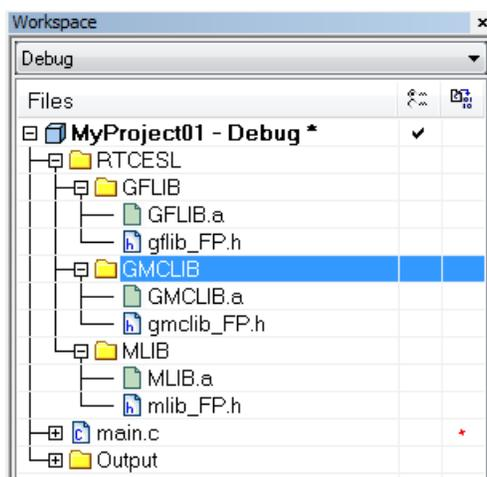

Figure 1-46. Project workspace
4. Click on the newly created node MLIB, and go to the main menu Project > Add Files... See Figure 1-46.
15. Now you will see the files added in the workspace. See Figure 1-46.